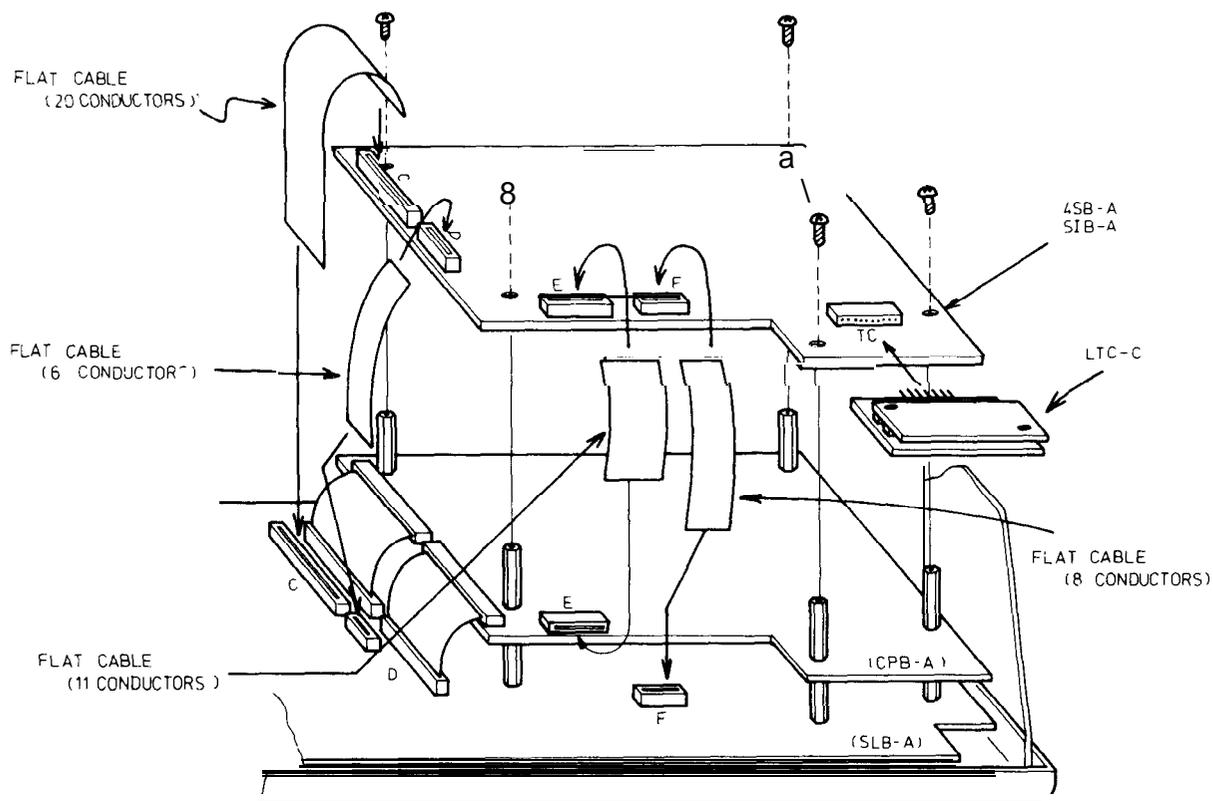

FIG. 22 - EXPANSION BOARD INSTALLATION
- a) The Main Equipment standard and expansion boards are spaced using five hexagonal standoffs. To dismantle, first gently pull the flat ribbon cables from the appropriate connectors as shown in figure 22. The boards are separated by removing the screws in the hexagonal standoffs. Optional boards are simply unplugged from their respective connectors as shown in figure 23.